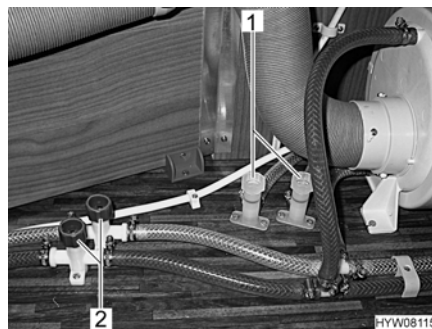

Fig. 82 Drain cocks for hot water source
- Close all drain cocks. To do this, close the caps (Fig. 82,1 and 2) by turning them in a clockwise direction.
- Open all drain cocks. To do this turn the caps (Fig. 82,1 and 2) in an anti-clockwise direction.